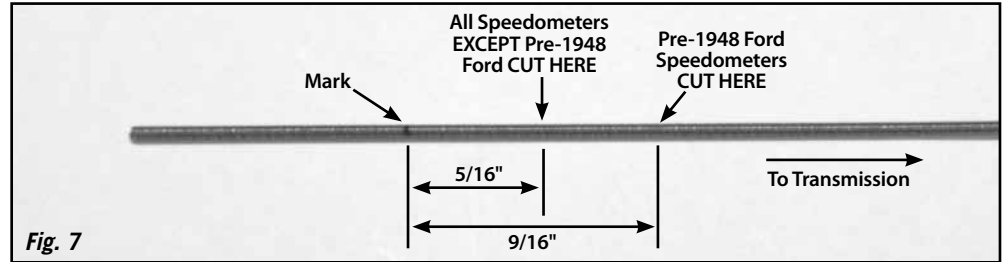

Fig. 7
Step 7: All Speedometers Except Pre-1948 Ford: Measure 5/16" back towards the transmission from your mark, and cut the inner wire there. Fig. 7
Step 7: Pre-1948 Ford Speedometers: Measure 9/16" back towards the transmission from your mark, and cut the inner wire there. Fig. 7